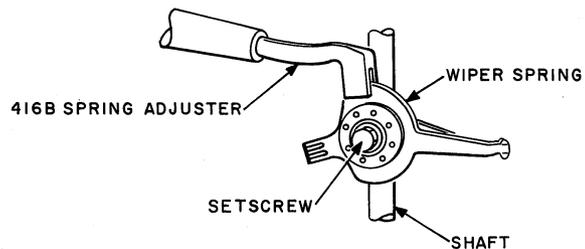

Fig. 15 - Method of Adjusting Spring Tension Commutator Wiper
(1) To change the position of the commutator wiper spring, loosen the setscrew in the wiper hub with the 3-inch C screwdriver or the 555A wrench. Move the wiper upward or downward as required.
(2) To adjust the tension of the wiper spring against the commutator contacts, proceed as follows. Step the switch manually to the third or fourth rotary position. Apply the 416B spring adjuster to the upper circular part of the wiper spring, as shown in Fig. 15, and twist the tool to the right or left as required. Then apply the tool to the lower circular portion of the spring and twist the tool an equal amount to the right or left as required. Where lack of tension between the wiper spring and the commutator contacts is due to improper location of the wiper on the switch shaft, loosen the setscrew in the wiper hub with the 3-inch C screwdriver or the 555A wrench. Turn the wiper assembly on the shaft, moving the tip of the wiper spring toward the commutator to increase the tension. After making this adjustment, recheck the centering of the wiper spring on the commutator contacts.